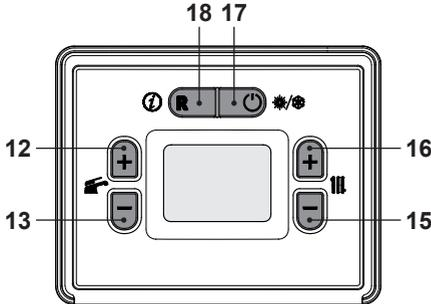

Figure 5.51
- Use 15 or 16 (Figure 5.51) to change the value of parameter A49:
- Press 12 or 13 (Figure 5.51) to confirm the value entered and return to the list of parameters (Figure 5.52).
- Press 17 (Figure 5.51) to exit “programming mode”.